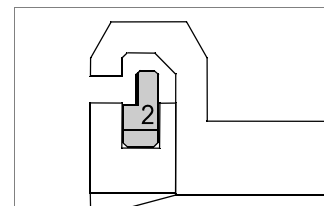

Fig. 59
- 1) Raise the safety shield, loosen the handle (N) and turn the depth regulating ring nut (O) so that the number 6 corresponds with the spindle support notch () (it will click into place). Block the handle (N).
- 2) Fit insert 1-2 in the clamp with notch 2 towards the operator (fig. 59).